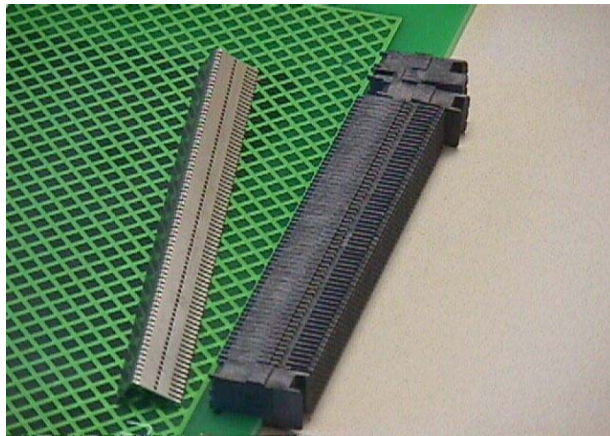

Figure 11
Step 3. Remove the stiffener and set it aside (see Figure 11).